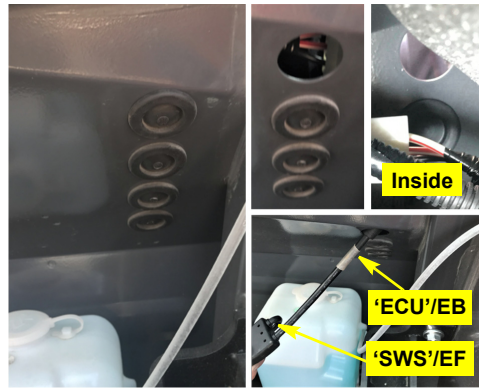

Figure 2c: Cab access - to cabling compartment
c. Using hardware **WN**, mount clamp **WM** and link rod bracket **WL** on the left tie rod. Mount **WL** on top of **WM** with its rod hole forward (Figure 2c - you will install the link rod at the next step). Set the inward face of **WM** against the tie rod adjustment locknut (Figure 2c inset).
Figure 2c with inset: WAS link rod bracket installed